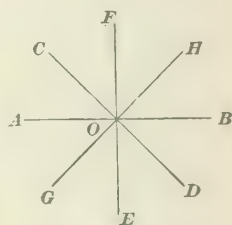

FIG. 15.
34. Also, if through a given point any number of straight lines be drawn, the sum of all the angles formed about the points of intersection equals four right angles, or 360° . Thus, in Fig. 15, angles $HOE + FOE + COA + AOG + GOE + EOD + DOB + BOH = 4$ right angles, or 360° .